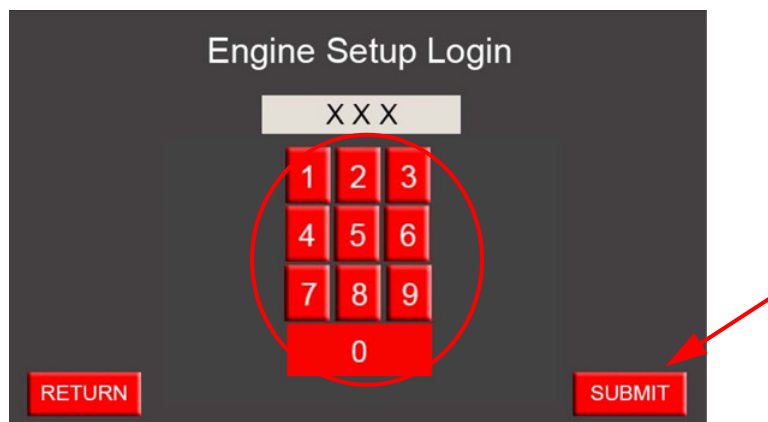

Figure 4-7 Typical Engine Setup Login screen
3. As shown in Figure 4-7, press the soft number keys to enter password "806" in the Engine Setup Login screen.
3. As shown in Figure 4-7, press the soft number keys to enter password “806” in the Engine Setup Login screen.